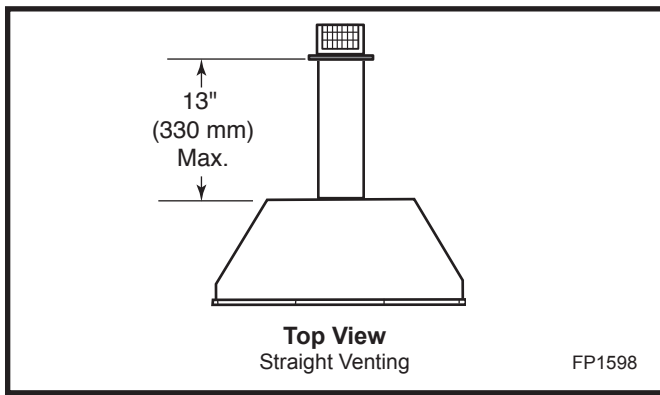

Fig. 12 Rear vent applications.
- **The maximum straight horizontal distance between the rear of the appliance and the outside face of the rear wall is 13" (330 mm). The minimum is 7" (178 mm). (Fig. 12)**